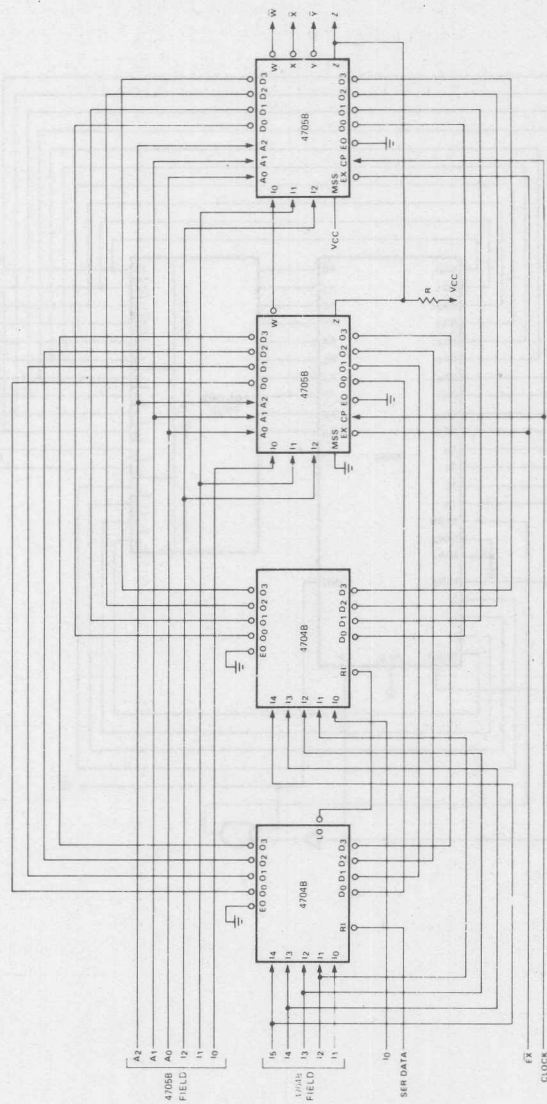
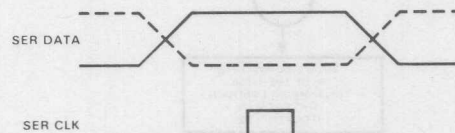
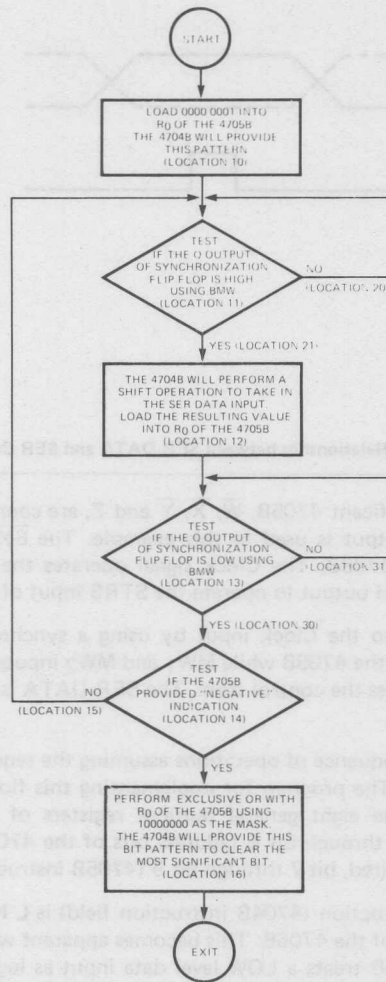

Fig. 7a. Data Path Example
Fig. 8. Timing Relationship between SER DATA and SER CLK
Fig. 9. Sequence of Operation
The single microprocessor example shown in Figure 7 and Table 7 is an assembly of a 1-bit word from a set of data words (SER DATA) using the associated clock (SER CLK). Figure 8 illustrates the assumed timing relationship between SER DATA and SER CLK signals. Consider an 8-bit word data path using two 4708B and two 4704B devices as shown in Figure 9. A 6-bit instruction bus is obtained (4708B field) by the microprocessor bit 4 through bit 9 of the serial stream (see Figure 7a). The 6-bit 4708B field is obtained by connecting 1 through 6 of 4708B devices and using 1 through 6 of each device separately. These six bits are also controlled by an output bit 10 through bit 15 of the control bus. The 4708B provides the 10-bit branch address for the microprocessor instruction bus.
The simple microprogram example, shown in *Figure 7* and *Table 1*, is an assembly of a 7-bit word from a serial data stream (SER DATA) using the associated clock (SER CLK). *Figure 8* illustrates the assumed timing relationship between SER DATA and SER CLK signals. Consider an 8-bit wide data path using two 4705B and two 4704B devices as shown in *Figure 7a*. A 6-bit instruction bus is obtained (4705B field) by appropriate connections of the 4705B instruction inputs. These six bits are controlled by an appropriate field in the microinstruction, bit 4 through bit 9 of the control store (see *Figure 7b*). The 6-bit 4704B field is obtained by connecting I₁ through I₄ of 4704B devices and using I₀ of each device separately. These six bits are also controlled by an appropriate field in the microinstruction, bit 10 through bit 15 of the control store. In this illustration, the 4704B and 4705B control fields of the microinstruction are also used to provide the 10-bit branch address for the 4708B. The instruction inputs for the 4708B are provided by the appropriate microinstruction field, bit 0 through bit 3 of the control store.
The flow chart in *Figure 9* shows the sequence of operations assuming the sequence is a subroutine starting at location (10)g in the control store. The program for implementing this flow chart is shown in *Table 1*. Note that register R₀, the first of the eight general purpose registers of the 4705B, is used for the serial-to-parallel conversion. Thus bit 4 through bit 6 (address bits of the 4705B field) are L L L. To indicate that a load operation into R₀ is desired, bit 7 through bit 9 (4705B instruction field) are L H H.